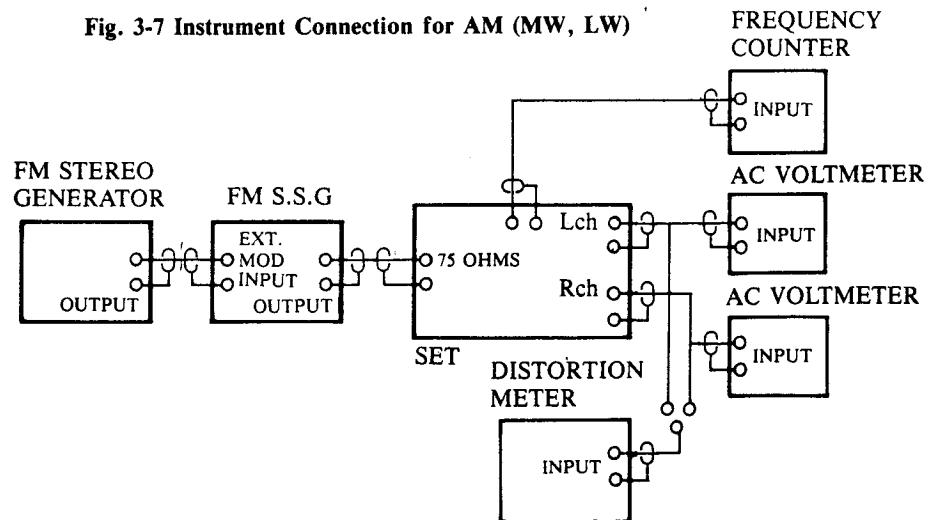

Fig. 3-8 Instrument Connection for FM Section Adjustment
| 2    | SENSITIVITY(LOW)                                     | 90 MHz30 dB $\mu$  | 90 MHz        | L001               | Minimumdistortion   | Refer to Fig. 3-8  |
| 3    | SENSITIVITY(HIGH)                                    | 106 MHz30 dB $\mu$ | 106 MHz       | C001               | Minimumdistortion   | Refer to Fig. 3-8  |
| 5    | MPXFree RunningFrequency                         |                        |               | R203               | 76 KHz $\pm$ 50 Hz  | Connect a frequencycounter betweenPin (4) of IC201 andGND.Refer to Fig. 3-8              |